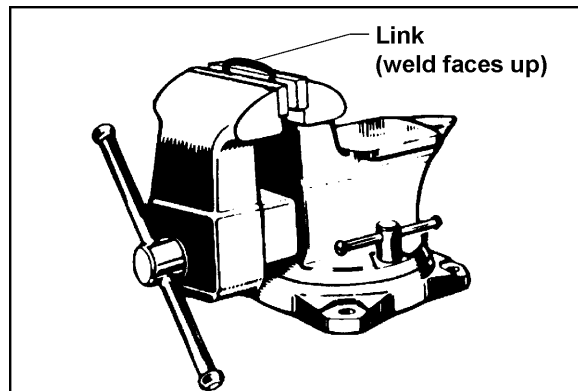

Figure 5
1. Insert one link lengthwise into a vise (Figure 5). Be sure that the side opposite the weld lies completely below the surface of the vise jaw (about 1/3 of a link). This prevents nicking or cutting the lower part of the link.